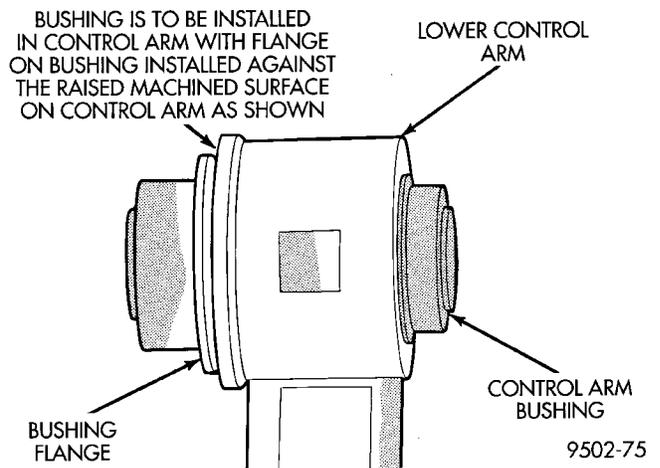

Fig. 74 Installation Direction Of Lower Control Arm Front Bushing
(2) Start front bushing into lower control arm **by hand, making sure it is square with its mounting hole in the lower control arm.** Bushing is to be installed in lower control arm from the machined surface side of lower control arm bushing hole (Fig. 74).